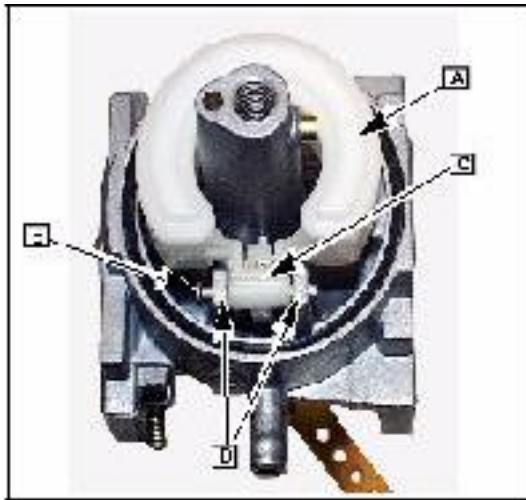

Fig. 46
Place float assembly ([A] Fig. 46) in carburetor.
hinge (C) and both hinge pin posts ([D] Fig. 46).